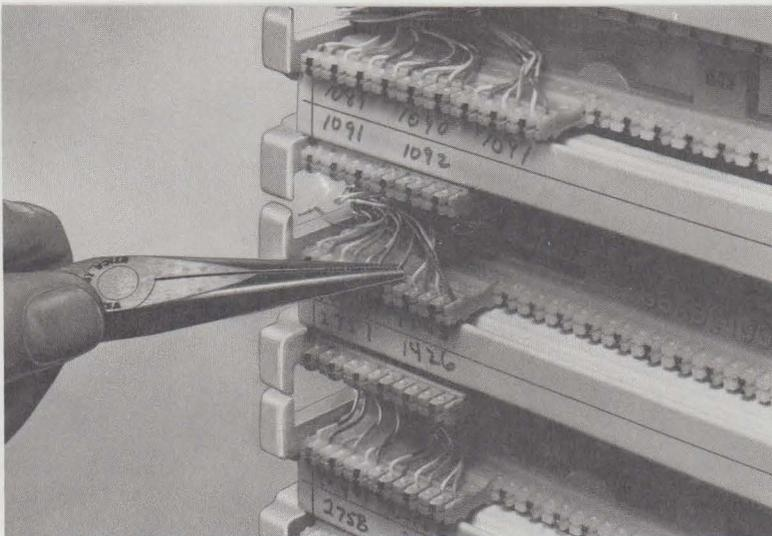

Fig. 25—Removing Cross-Connect Wire
3.23 To remove a cross-connect wire, use long-nose pliers to grip the wire where it enters the connecting block (Fig. 25) and pull straight out. Remove any fragments of insulation remaining on the clip or its cavity ♦using a KS-6320 orange stick.♦